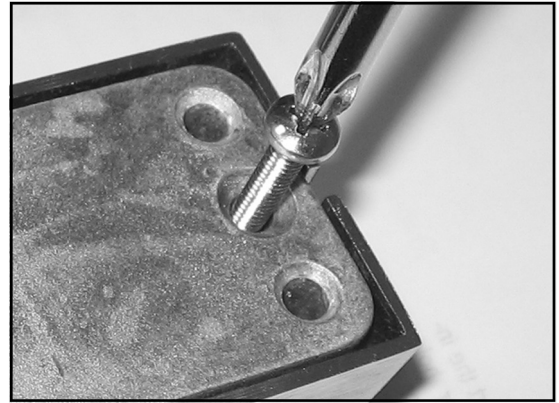

Fig. 7: The Phillips screw on the rear side locks or unlocks the battery cover. *Do not remove screw.*
7. Loosen the #8-32 Phillips pan head screw located on the rear side of the base plate at the bottom of the lock (see Fig. 7). Turn counter-clockwise until the battery cover slides off the housing. Do not remove the screw completely.